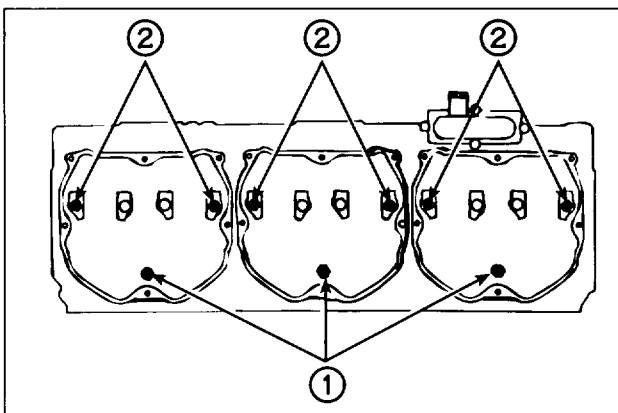

FIG. 7
Refer to Fig. 7 to identify the cylinder head bolts (1) and rocker shaft hold-down bolts (2) to be replaced.
Remove the rocker shaft hold-down bolts from the six locations next to the exhaust rocker arms (2, Fig. 7).